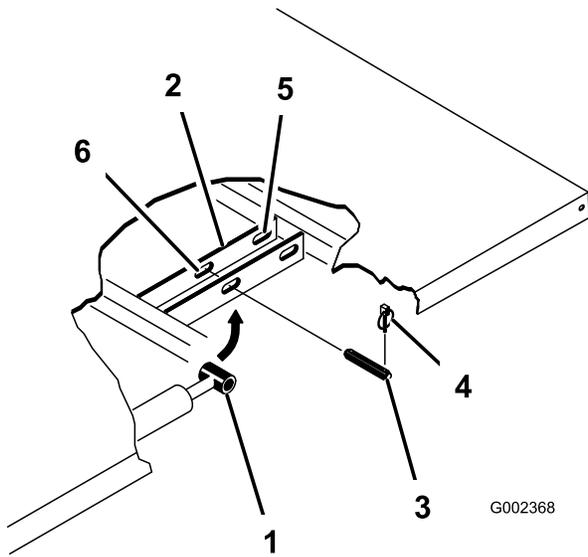

Figure 28
3. Remove the lynch pins from the outer ends of the cylinder rod clevis pins (Figure 28).